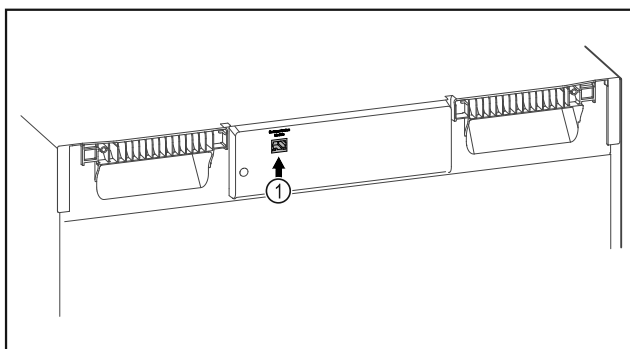

Fig. 102
- SmartModule Fig. 102 (1) is in use.